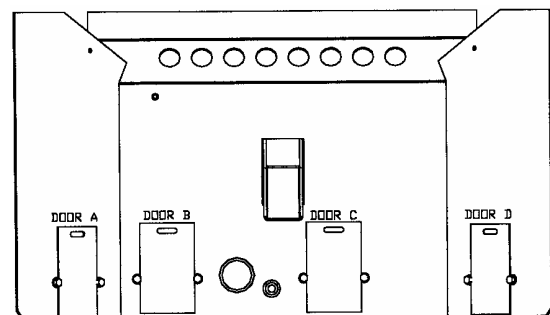

FIGURE 26
- Interior Chambers** – Four ash doors in the firebox in the P22 can be removed for periodic cleaning (refer to figure 26). These doors allow access to the chamber surrounding the firebox.